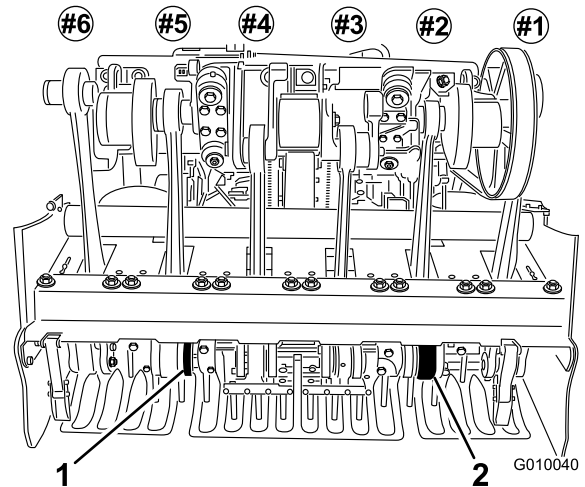

Figure 27
6. Install tines into the #2 and #5 tine holders (Figure 27). Tighten the bolts.